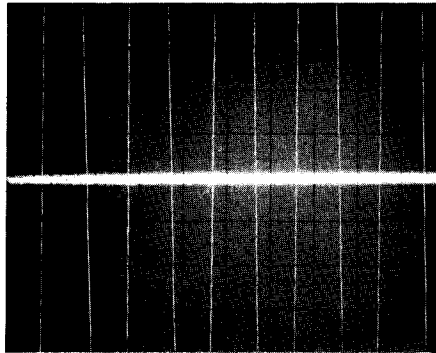

Figure 5-8. Waveform at A13TP3.
- c. Adjust "OFS-3" potentiometer A13R66 until dc level of displayed waveform is $0mV \pm 10mV$. Refer to Figure 5-8 which shows well adjusted waveform.